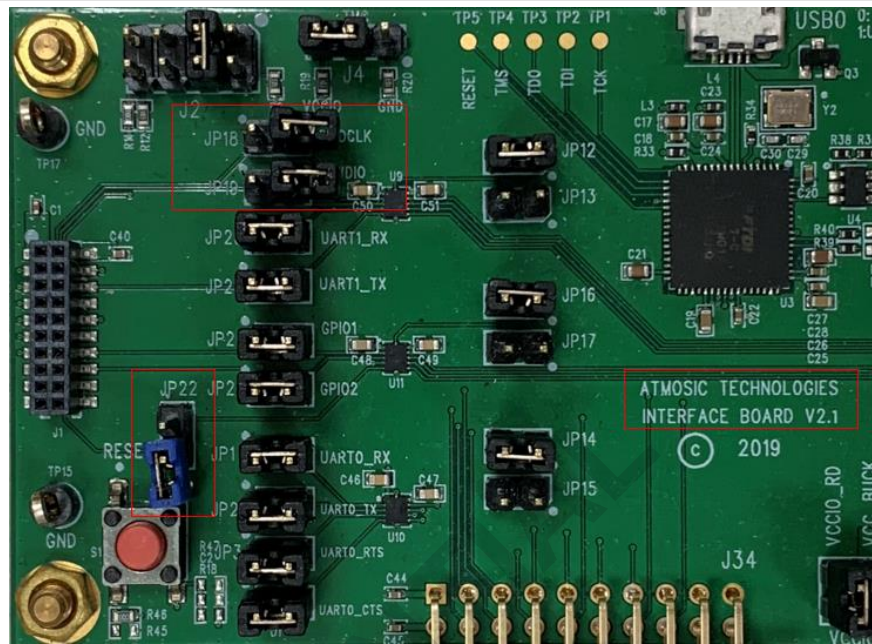

Figure 2 - Interface Board V2.x
- Figure 2 - Interface Board V2.x